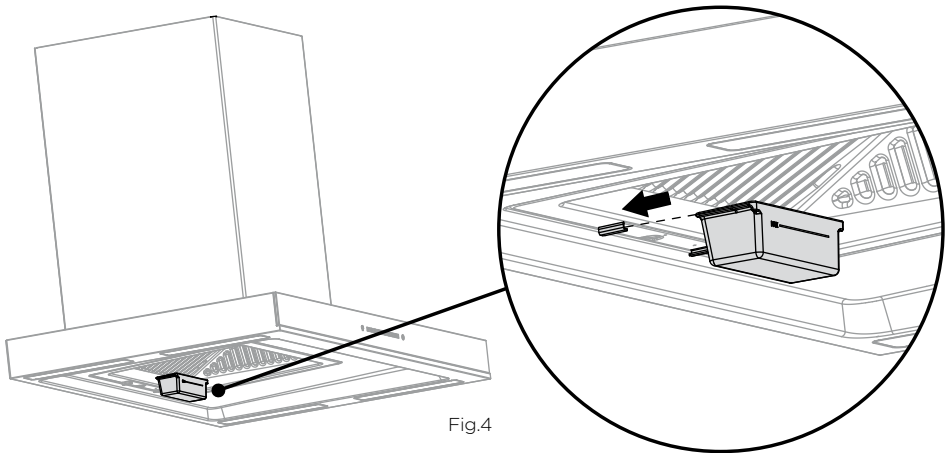

Fig.4
- ⑩ **Fit the oil receptacle**
- Slide the oil receptacle into the slot on the oil filter as shown in Fig.4.